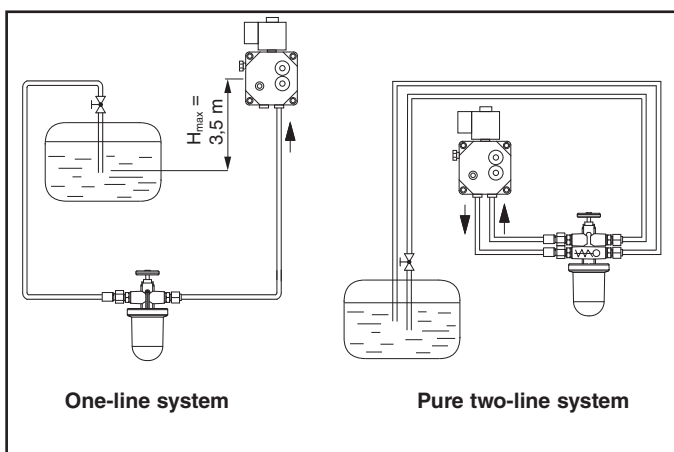

Figure 12
2.8. Oil pipes dimensions (see. fig. 12)